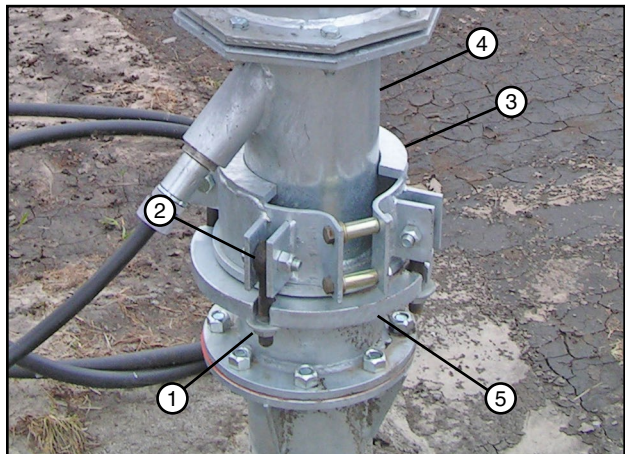

Figure 36-2 1. Hex Nut 4. Receiver Tube
11. Attach receiver tube to upper anchor with existing rod ends and hex nuts on anchor clamp. Tighten hardware completely. See figure 36-2.